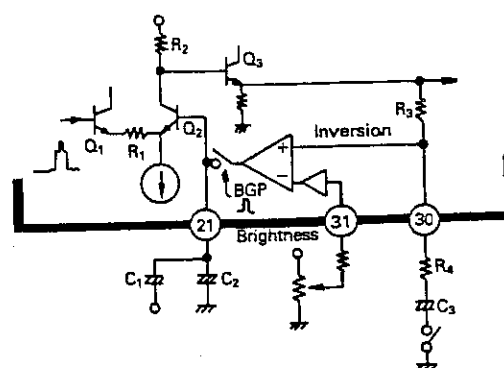
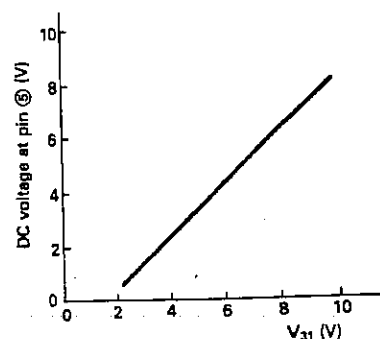

Figure 33-1.
Figure 33-2.
Fig. 33-1 shows an outline of the DC restoration/brightness control circuit.
During BGP periode, it is seen from Fig. 33-1 that DC voltage at pin ⑩ is inversed in phase and fed back to pin ⑨. In this way, it is possible during BGP period to control DC voltage (pedestal DC voltage) at the emitter of Q_3 by applying a brightness control voltage to pin ⑩. Fig. 33-2 represents the brightness control characteristic.